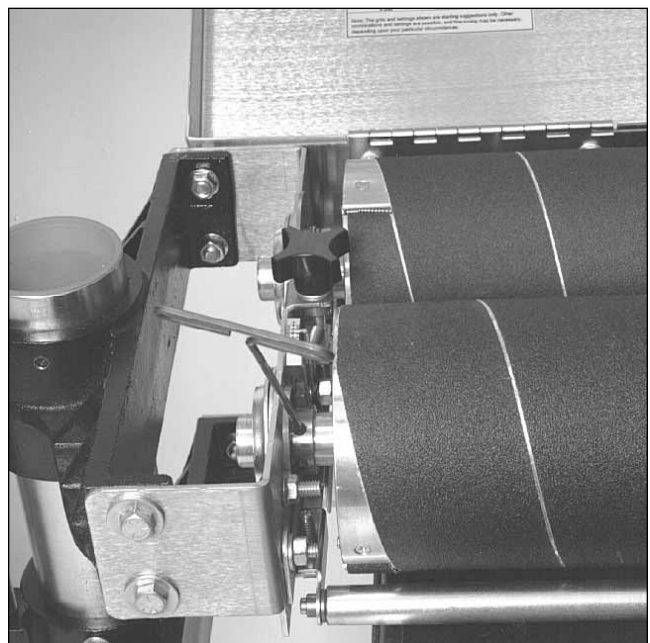

Fig. 40. Locating bearing set screws.
Note that if clicking noises in the bearings are a problem, rotating may be a solution instead of replacement, as follows (See Fig. 40):
1. Lower the conveyor and spin the drums by hand to make sure the drum shaft is not binding in the bearing. If the bearings bind, loosen the set screws and the bearing flange for one bearing at a time. Spin the drum within the collar, then tighten the set screws and then the bearing flange (Fig. 40).